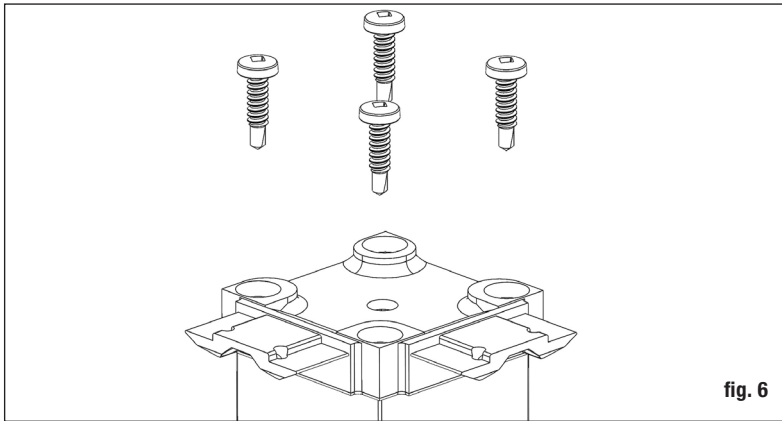

fig. 6
Step 5 Secure the continuous top rail base to the top of the post using the provided base screws (fig. 6) *Note: If left slightly loose you can make minor adjustments to correct rail level issues later.*